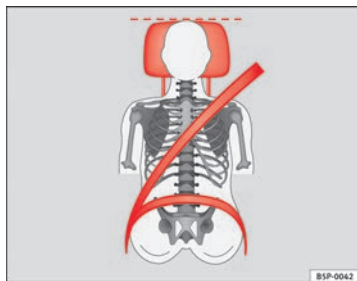
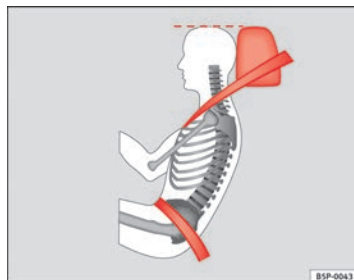

Fig. 67 Front view: head restraints and seat belts correctly adjusted
Fig. 68 Side view: head restraints and seat belts correctly adjusted
- Adjust the head restraint so that the top is at the same level as the top of your head or as close as possible to the same level as the top of your head, at least at eye level ⇒ fig. 67 and ⇒ fig. 68.